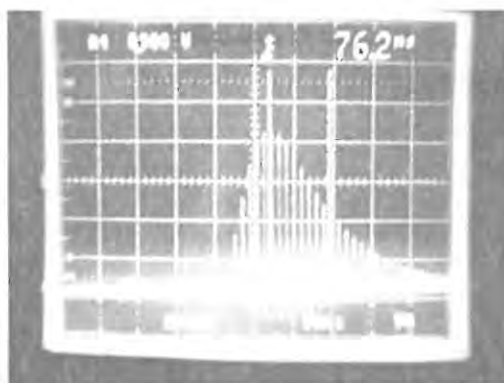

Figure 6.19 RA Cavity "seeded" radiation
7. If the alignment of the stretched output beam into the RA cavity is optimized, one should see the greatest amount of buildup reduction between the Q-switch signal and the seeding of the Mai Tai pulse into the RA cavity (See Fig. 6.19).